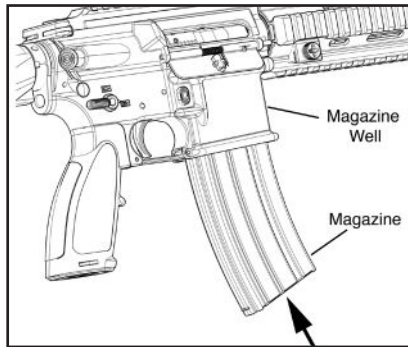

Fig. 30 – Inserting Magazine into the Rifle
4. Insert a loaded magazine into the magazine well until the magazine catch engages the magazine (Fig. 30).
3. Insert a loaded magazine into the magazine well until the magazine catch engages the magazine (Fig. 30).